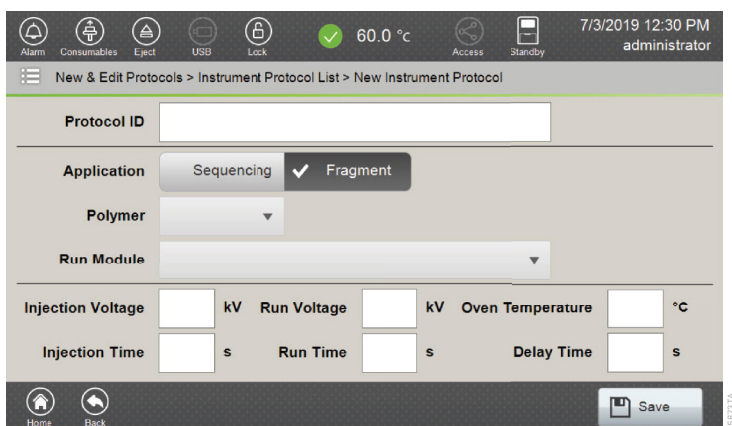

Figure 119. 'New Instrument Protocol' screen.
2. Select **Create** in the footer to open the 'New Instrument Protocol' screen (Figure 119).